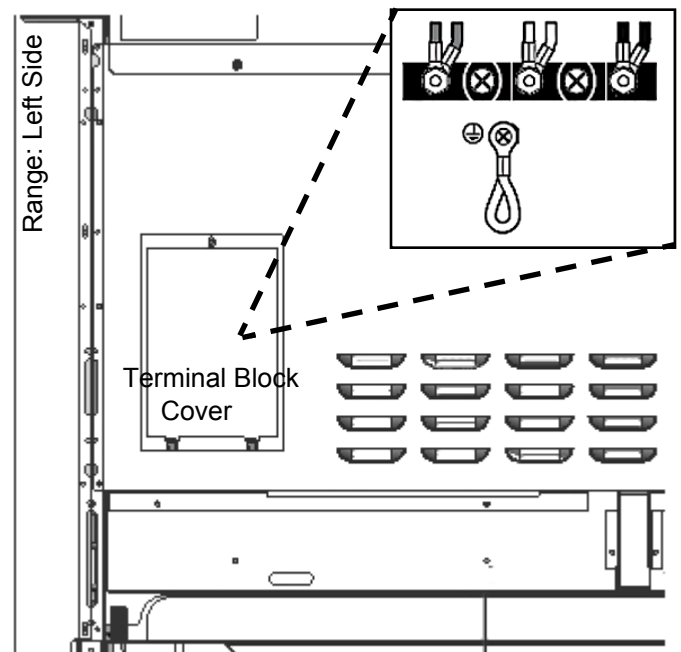
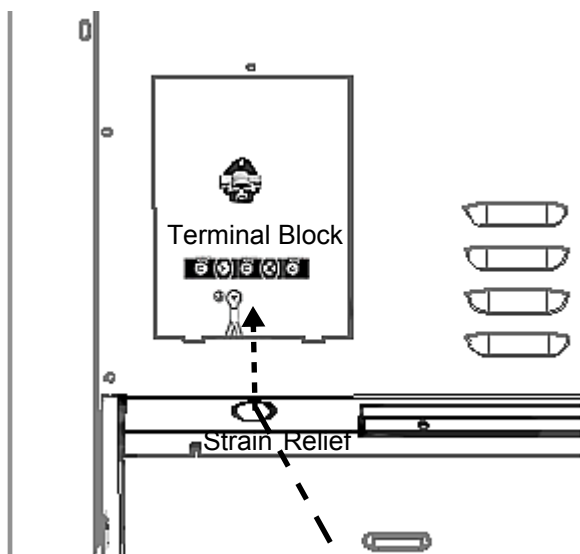

Figure 15: Terminal Block Location
Figure 16: Strain Relief Location
Units may be hard wired to the power supply. The installer must provide approved flexible aluminum conduit, 3/4" (19mm) trade size, maximum 6ft (1.8m) long. Locate the terminal block on the rear of the unit and remove cover (refer to *Figure 15*). The conduit must be installed to the terminal block using an approved conduit connector. The free end of the conduit must be connected to a junction box provided in the electrical supply zone, as shown in *Figure 3* on page 7.
Mount a strain relief (not provided) into the 1" (25.4mm) diameter hole located below the terminal block (see *Figure 16*). Wiring for the unit is to be brought into the terminal block through the conduit and through the strain relief. The ends of the wiring must have 1/4" faston closed-loop lugs attached, preferably soldered in place. Make the connections to the terminal block provided (see *Figure 15*).
2. Mount strain relief (not provided with range) into the 1" (25.4mm) diameter hole in the back panel located below the terminal block (see *Figure 16*). Route wires up through strain relief.